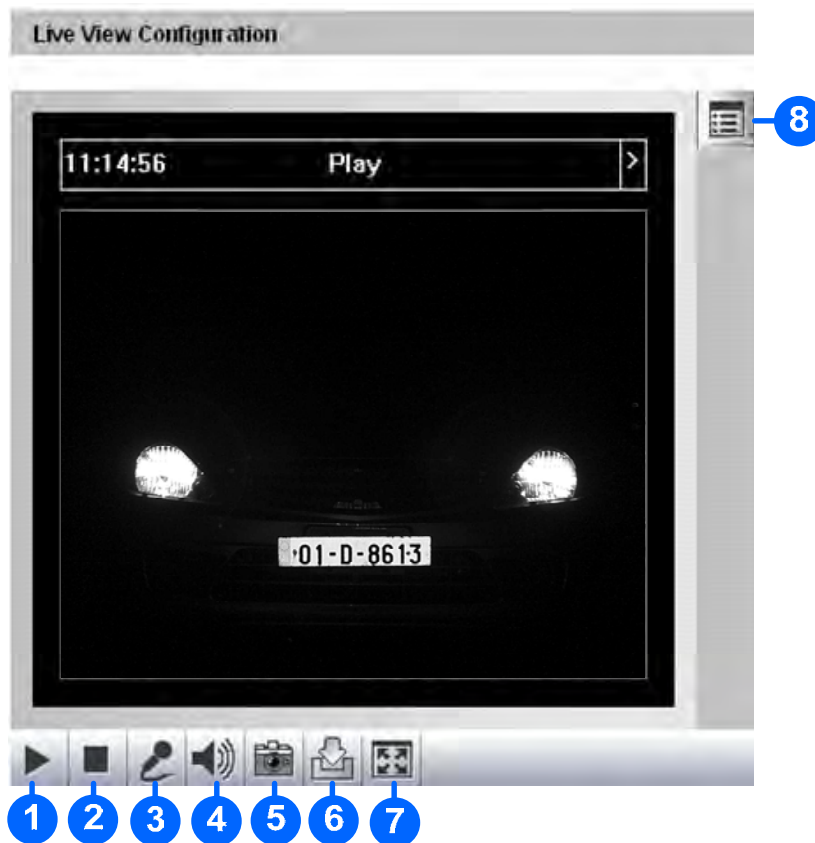

Figure 3-2
1. Click the **Snapshot** button (No. 5, Figure 3-2). The Save As dialog box appears.
1. Click the **File Save** button (No. 6, Figure 3-2). The Save As dialog box appears.
4. To stop recording, click the **Stop** button (No. 2, Figure 3-2).
To configure this function, click the **Show System Menu** button (No. 8, Figure 3-2), and select **Alarm Notify**. This dialog box appears.
Click the **Show System Menu** button (No. 8, Figure 3-2), and select **Video and Audio Configuration**.
You can upgrade the device firmware over the network. Click the **Show System Menu** button (No. 8, Figure 3-2), and select **Remote Config**. The Remote Config dialog box will appear.
To display the camera name on the image, click the **Show System Menu** button (No. 8, Figure 3-2), and select **Show Camera Name**.
To enhance the image quality of live video, click the **Show System Menu** button (No. 8, Figure 3-2), and select **Image Enhance**. This dialog box appears.